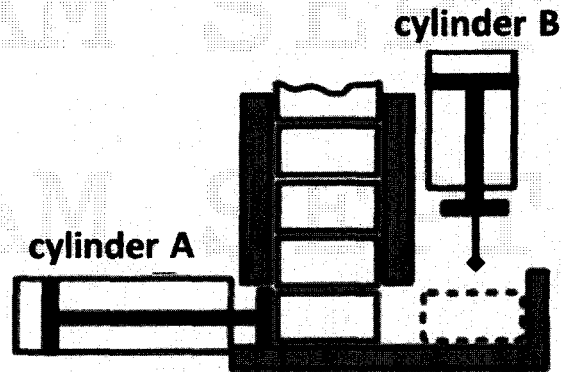

FIGURE Q2
2. A manufacturing plant utilises a hydraulic system shown in **FIGURE Q2** for its automatic clamping and drilling machine operation. The system consists of two cylinders which are cylinder A and cylinder B, one sequential valve and one pressure limiting valve.